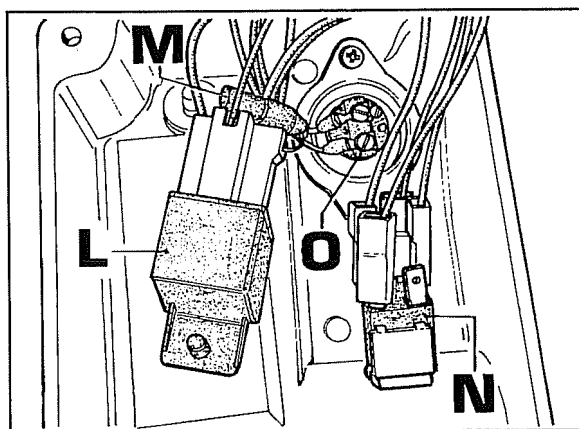

Fig. 9
5. If no voltage is measured at the jumper described previously, use the tester to check the functional performance of the raise/lower switch **N**, relay **L**, diode **M** and safety switch **O** shown in Fig.9, under the right mudguard mounting on the platform.